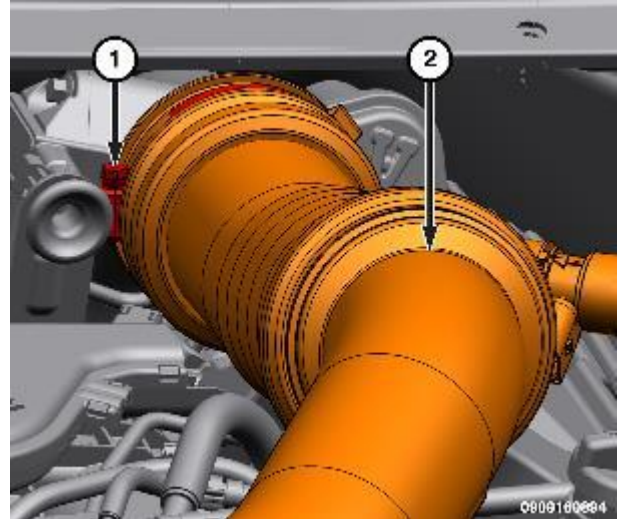

Figure 178 – Clean Air Hose at Turbo
12. Loosen clean air hose clamp (1) and remove the clean air hose from the turbocharger elbow (Figure 178).